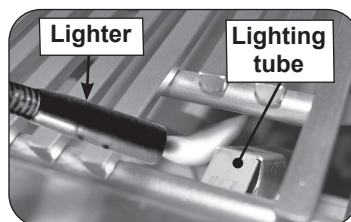

Fig. 31-2 Manual lighting via lighting tube
2. Insert either a burning long-barrel butane lighter or a burning long-stem match through the cooking grid opening to the top of the lighting tube (see Fig. 31-2). For backburners, power burners, or infrared burners, hold the flame against the surface of the back burner/power burner/infrared burner.